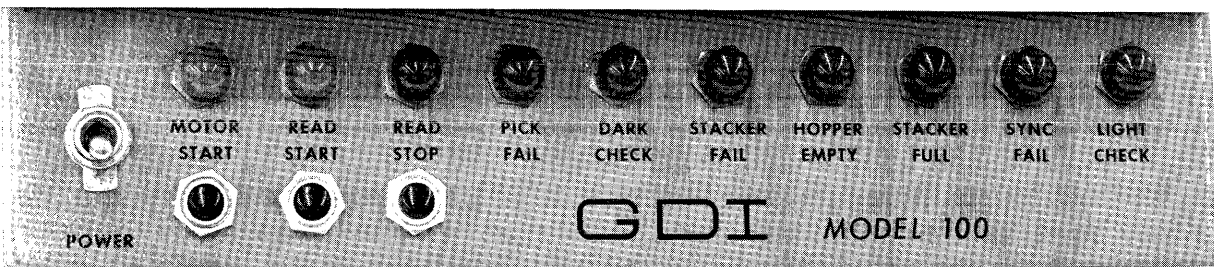

Figure 2-1 GDI-100 Control Panel
The GDI-100 control panel is shown in Figure 2-1. These controls are discussed in the 'Model 100 Card Reader Technical Manual', Section III. All errors in the card-read operation are sensed and rejected in the GDI-100, and are indicated on this panel. Sections 3.4 and 3.5 of the GDI-100 Technical Manual explain these controls and indicators.
**READER READY** - When READER READY is true (present), the card reader is ready to read a card. The absence of this signal indicates that the GDI-100 has detected an error in its own operation or in the data card being read. READY false (not present) clears the READ flip-flop. The seven internal GDI trouble signals are indicated on its control panel (Figure 2-1).
**INDEX MARKER (IM)** - One Index Marker (IM) is generated for each card data column as it is being read. IMs are synchronized with card motion by a serrated sync wheel connected to the GDI motor drive. The GDI uses these pulses to gate each data output from the read station onto its data output lines. Each IM also goes to the CR8/I Control, clearing the data buffer. The same IM delayed (IMD) gates new data into the data buffer 1  $\mu$ s later, and also sets the DATA READY flip-flop to notify the computer that data is ready for transfer.